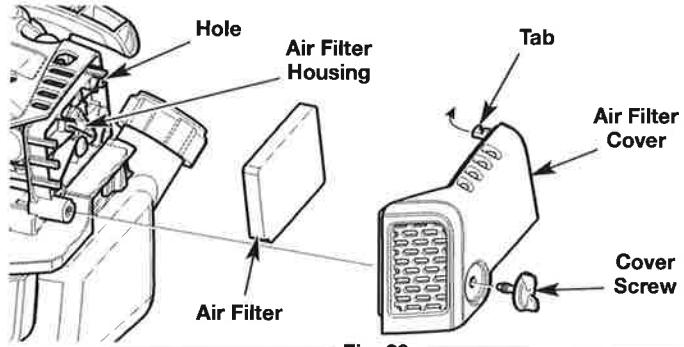

Fig. 29
1. Unscrew the cover screw completely. Swing the air filter cover to the right. Remove the air filter cover from the air filter housing (Fig. 29).
2. Remove the air filter from the air filter housing (Fig. 29).
6. Reinstall the air filter in the air filter housing (Fig. 29).
7. Insert the tab on the air filter cover into the hole on the air filter housing. Swing the air filter cover to the left. Push the air filter cover back onto the air filter housing. Insert the cover screw into the air filter cover. Tighten the cover screw to secure the air filter cover (Fig. 29).